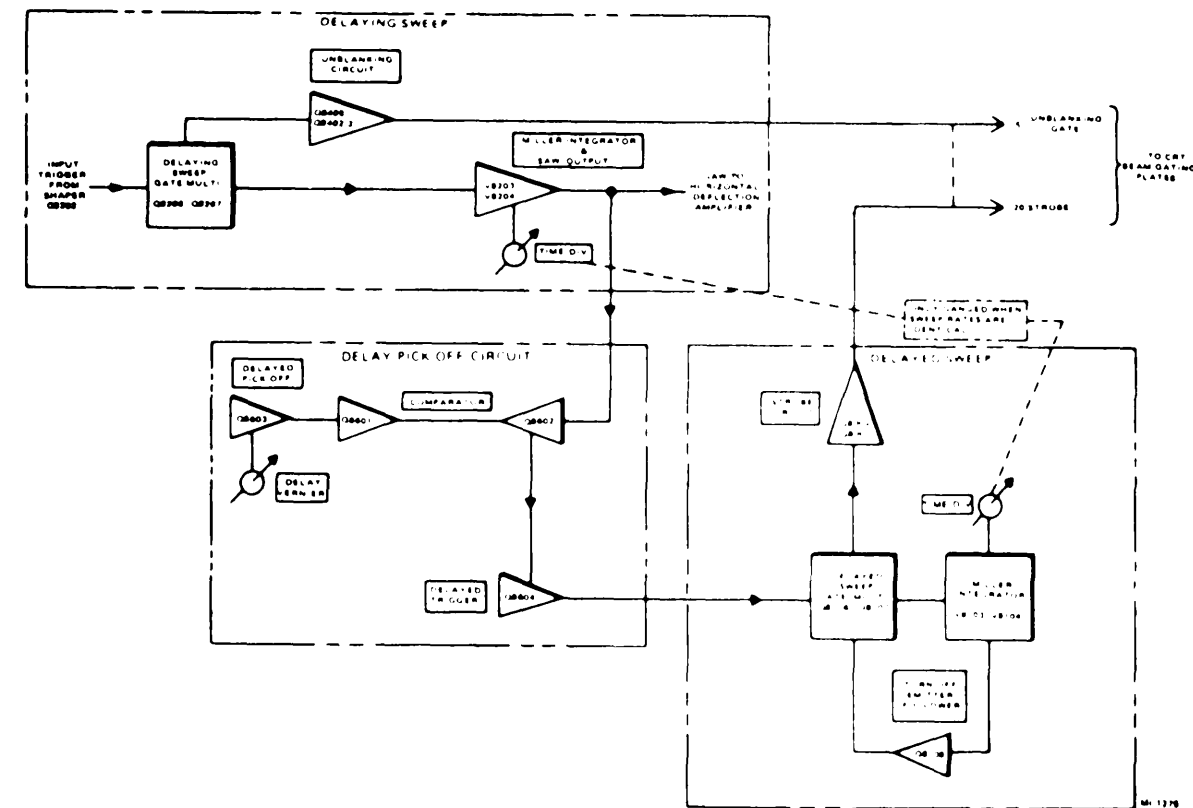

Figure 3-16. Triggered strobe mode, functional block diagram.
3-19. Triggered-Strobe Mode (Figs. 3-16, 3-17, and 6-4)
b. Referring to figure 3-16, the saw from the delaying sweep circuit is applied to the horizontal deflection amplifier and to the input of delay pick-off comparator circuit Q8601 and Q8602. This circuit is a differential amplifier which compares the voltage level of the input delaying sweep against a fixed voltage obtained from the DELAY VERNIER control. When the voltage level of the delaying sawtooth waveform reaches a certain level, as determined by the setting of the DELAY VERNIER control, the output of the comparator circuit is applied to delayed trigger amplifier Q8604, which drives coupling transformer T8601. The negative pulse from the secondary of this transformer is through series-coupling diode CR8105, to trigger delayed sweep gate multivibrator Q8106 and Q8107.